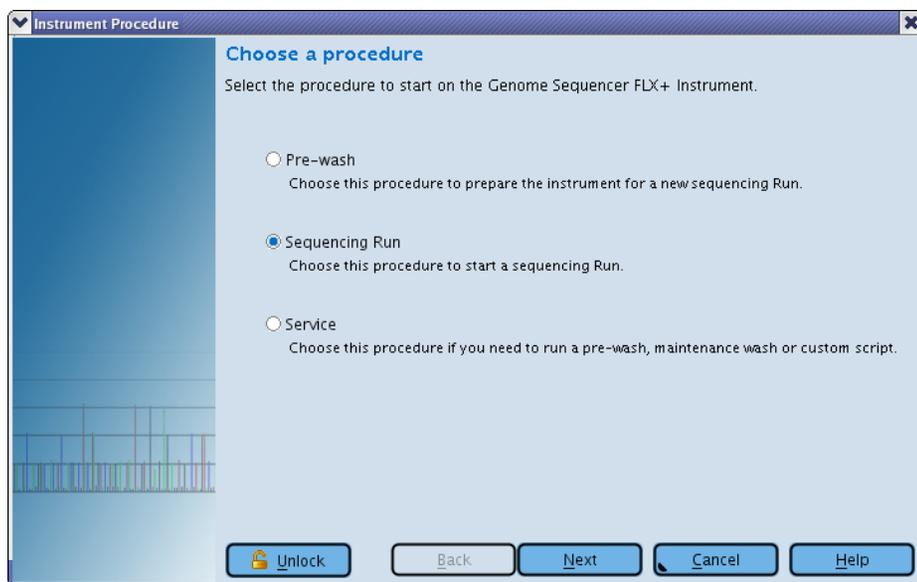

Figure 20: The Run Wizard's first window: Choose a procedure, with Sequencing Run option selected
- This opens the Run Wizard's first window: Choose a procedure (Figure 20).